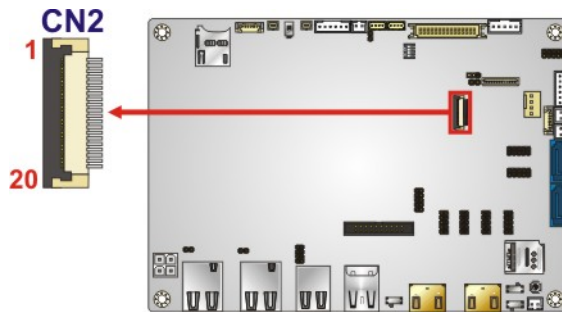

Figure 3-11: EC Debug Connector Location
- CN Location:** See **Figure 3-11**